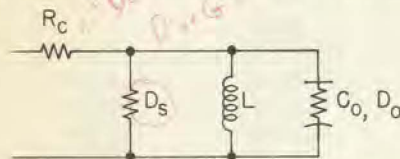

Figure 1. Equivalent circuit of an air-core inductor,  $L$ .
**Inductance Changes:** The inductance depends not only upon the geometry and the permeability of the core, but upon the residual impedances, which are shown in the equivalent circuit of Figure 1. The largest changes of inductance with frequency are produced by the effective shunt capacitance,  $C_o$ , of the winding and the terminals. When the frequency,  $f$ , is well below the resonance frequency,  $f_o$ , the fractional increase in inductance is approximately
In an air-core inductor, the losses (Figure 1) are